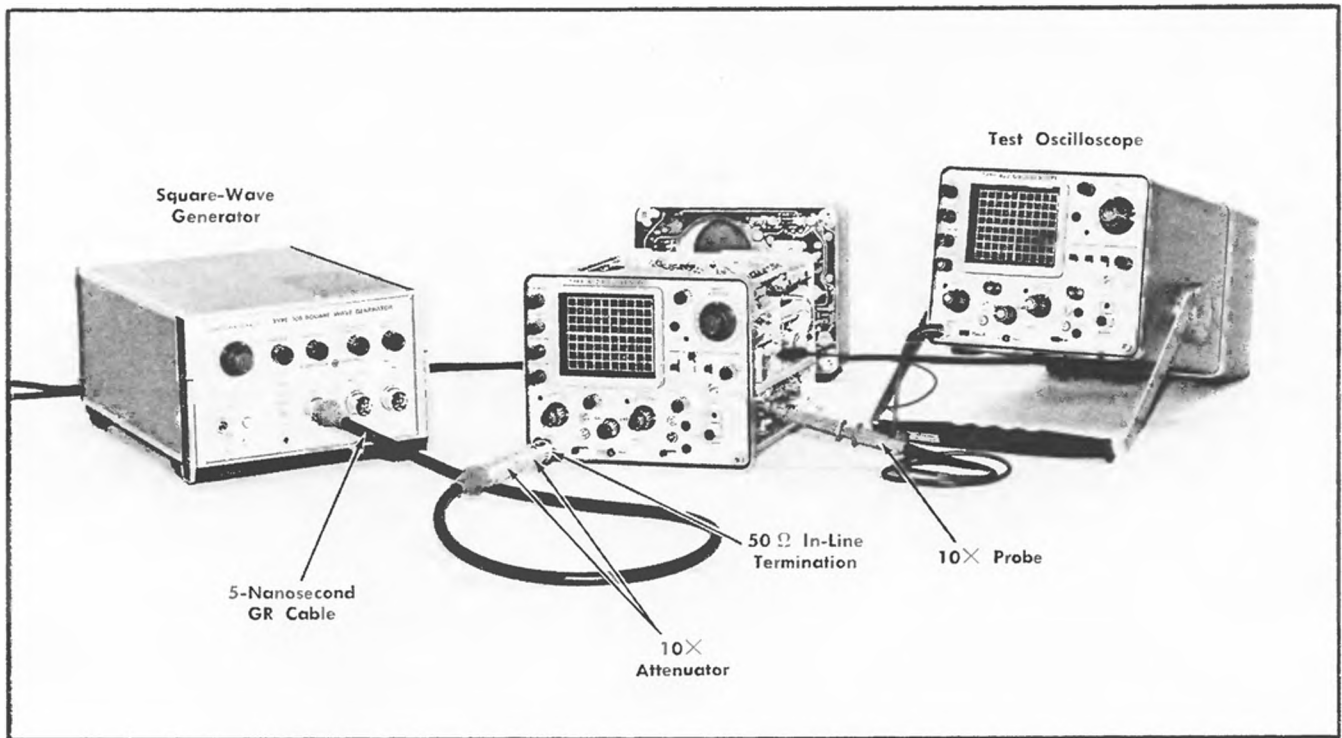

Fig. 6-33. Initial test equipment setup for steps 30–33.
**30. Adjust Internal Trigger Compensation ①**
- Test equipment setup is shown in Fig. 6-33.